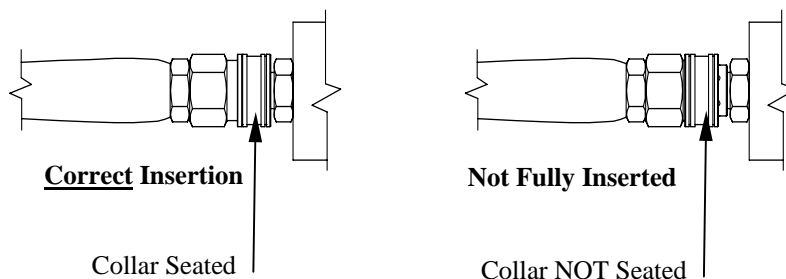

Figure 8b
3. Release the collar, making sure it springs back and re-seats to its original (non-retracted) position. (Figure 8b). *Check the connection by pulling on the hose to ensure a positive connection.*